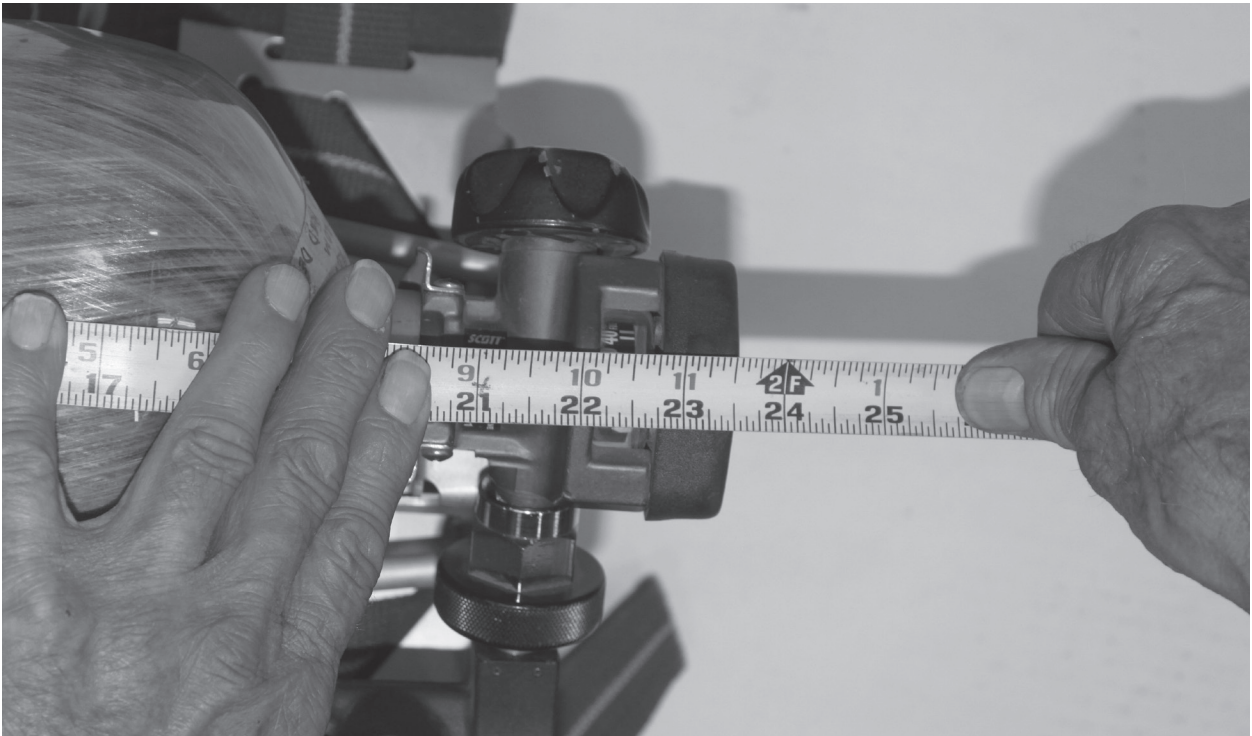

Figure 6
8. Remove the (4) T-27 torx head screws that are holding the Upper Bracket Assembly in place. If you have the adjustable footplate, be sure not to let the weight of the upper bracket hang on the adjustment rod when it's unattached and when reattaching it.
9. Reattach the Upper Bracket Assembly in the desired position using the (4) T-27 torx head screws.
10. If using this bracket with a 30 min. 5500 PSI air cylinder, refer to page 22 now. Otherwise, reattach the Bumper Spacer Locator to the Upper Bracket Assembly with the (2) #2 Phillips head screws.
12. Measure the overall length of your desired air cylinder from bottom of the air cylinder valve to top of the air cylinder (*see Figure 6, below*). Add 1" to this measurement.